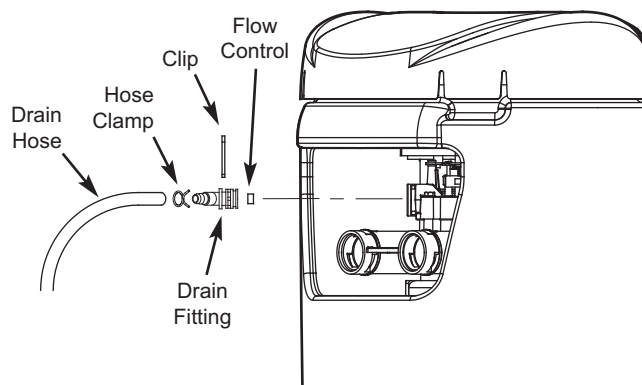

FIG. 24
1. Remove the clip holding the drain fitting into the valve (See Figure 24).